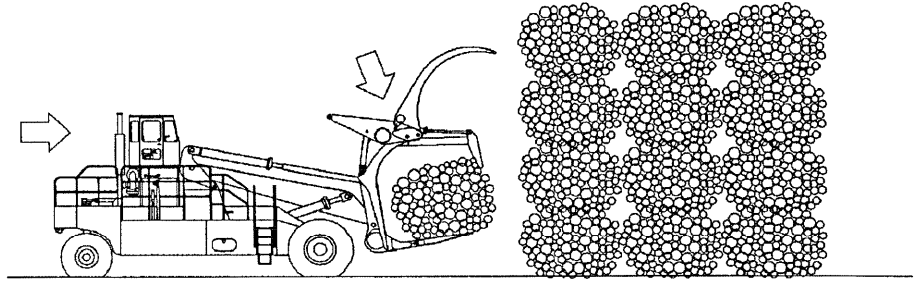

Fig 4-17
1. When approaching the deck with a bundle, clamp the bundle with the auxiliary holddown arms and then raise the main holddown arms. This allows the bundle to be placed tightly against the others. See Fig. 4-17